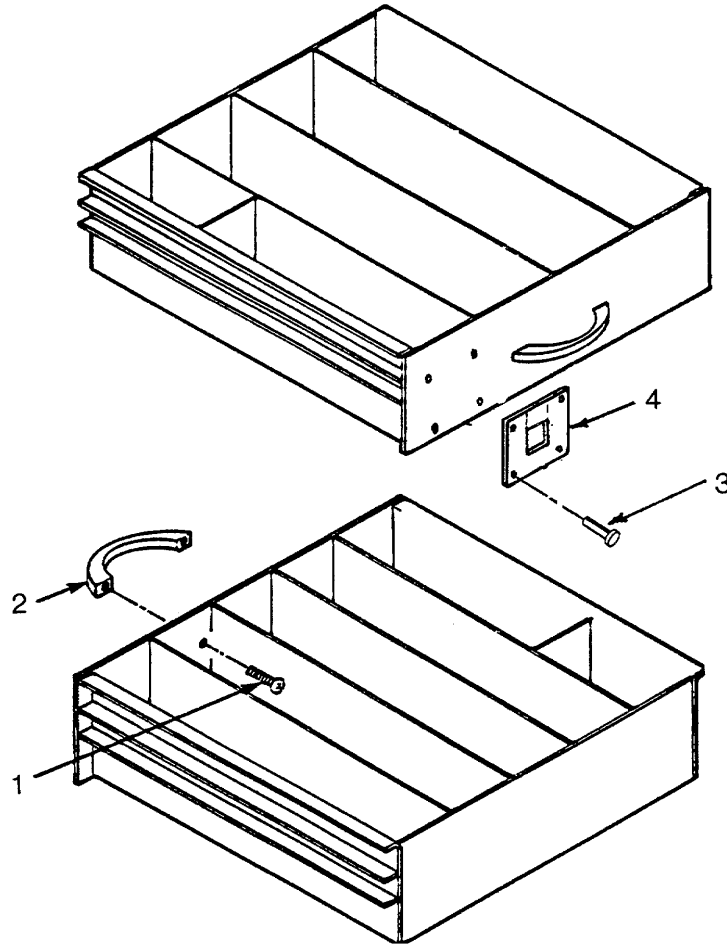

Figure 4-3. Historical File Cabinet Drawer
- (1) Remove handle screws (1). (Refer to Figure 4-3.)
- (2) Remove handle (2).
- (3) Remove rivets (3) by drilling or chiseling off heads